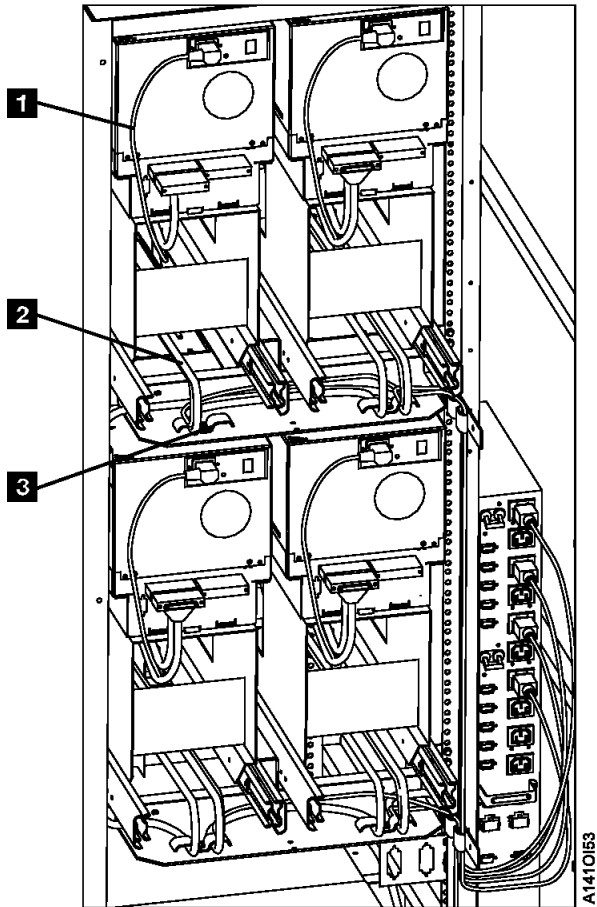

Figure 6-22. SCSI Cable Locations for Single A50
- \_\_ 21. Route SCSI cables from A50 (both A50's if Feature Code 3312 is used) along the articulating arm and clamp in place leaving large loops of cable at each side of frame. Refer to Figure 6-22 on page 6-40.